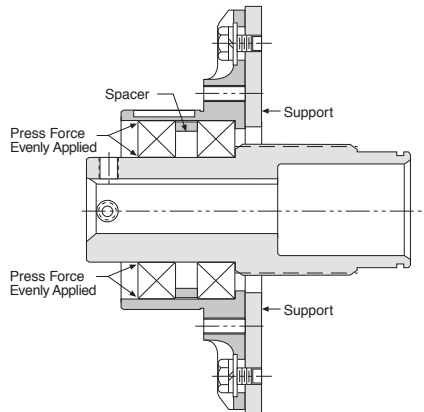

Figure 44
19. Press the outer bearing (Item 5) into place by **applying force evenly against the bearing outer and inner races simultaneously** while supporting the armature face. Continue pressing until the outer race firmly locates against the spacer. (See Figure 44)